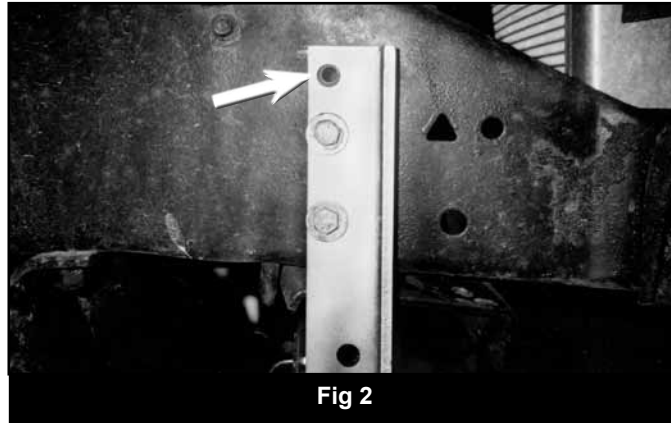

Fig 2
7. Mark the frame with a center punch through the top mounting hole in the frame bracket. Drill a 1/2" hole in the frame at the mark. Install a 7/16" x 1-1/4" bolt, nut, and washers (Fig 2). Tighten all mounting hardware securely.